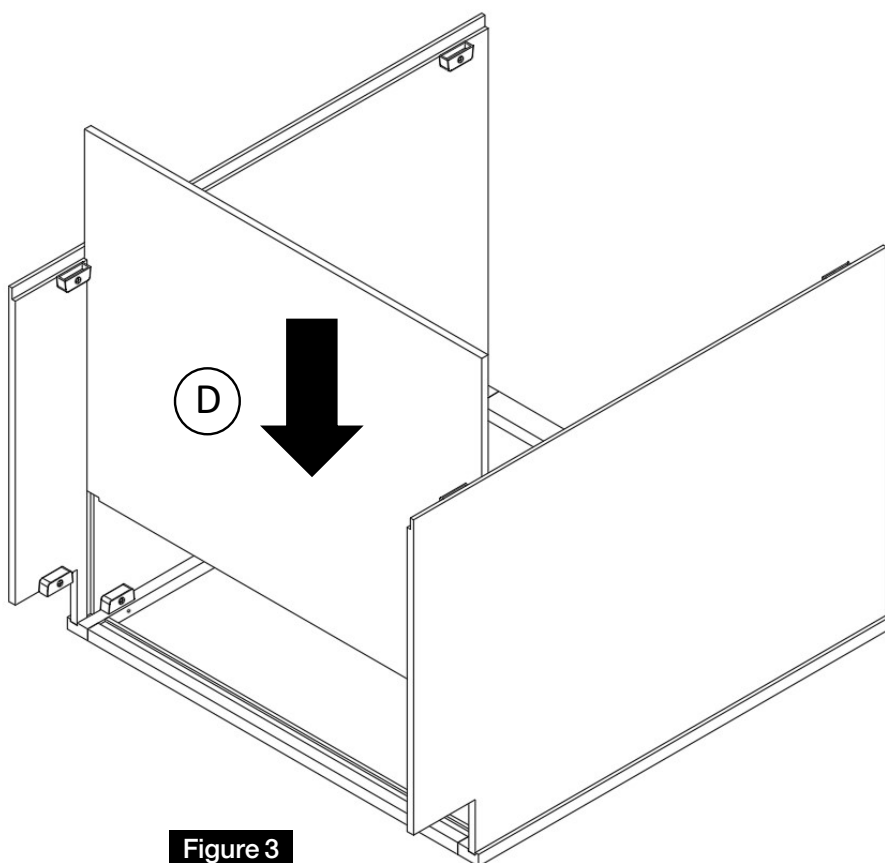

Figure 3
Insert the Bottom Panel (D) into the groove of the Side Panels and Frame. (Figure 3)